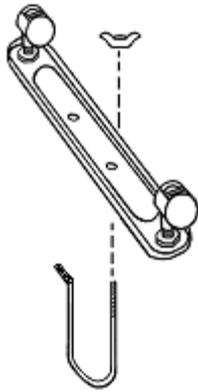

Fig. 1
1. To attach the castors, turn the radiator upside down. Place the castors between the last two panels on either end. Face the wheels up towards you and attach by means of the U-bolt and wing nuts supplied. Slide the U-bolt under the radiator frame and attach to the castor brackets. Refer to figs 1 and 2.